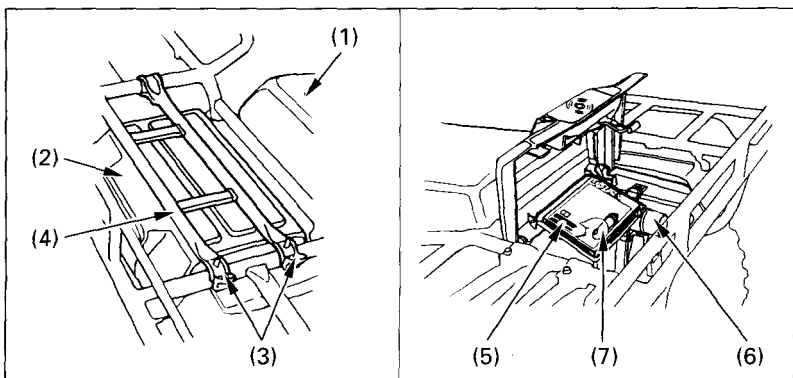

Fig. 2-23
The storage compartment (Fig. 2-23) is behind the seat. To open the compartment, unhook the rubber straps (3) and lift the rear rack (4). The owner's manual (5), tool kit (6), and air pressure gauge (7) should be stored in the storage compartment.